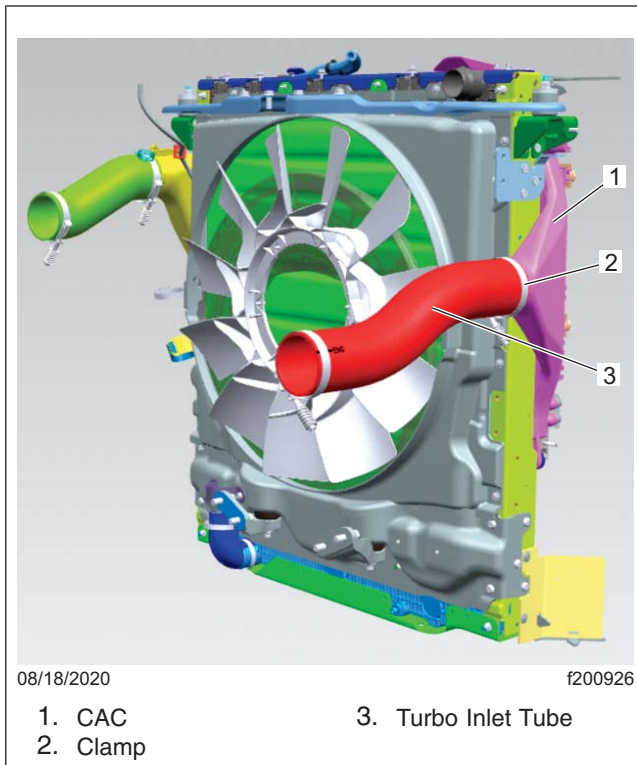

Fig. 7, CAC Hose, Right-Hand Side
8. Remove the right-hand side charge air cooler (CAC) hose. See **Fig. 7**.